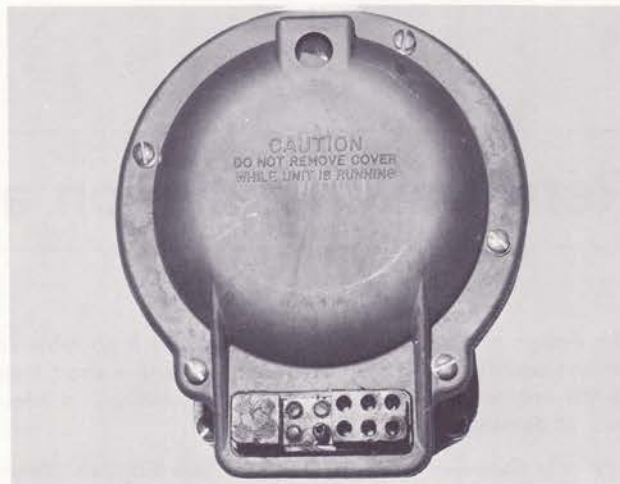

Fig. 4-3. Rotor arm in Mag-tronic timing window
1. Crank engine in direction of rotation until rotor arm is centered in timing window of "Mag-tronic" distributor head, Fig. 4-3, and engine timing marks are indexed for No. 1 cylinder for GNH Series and No. 1-R for GV12 Series.